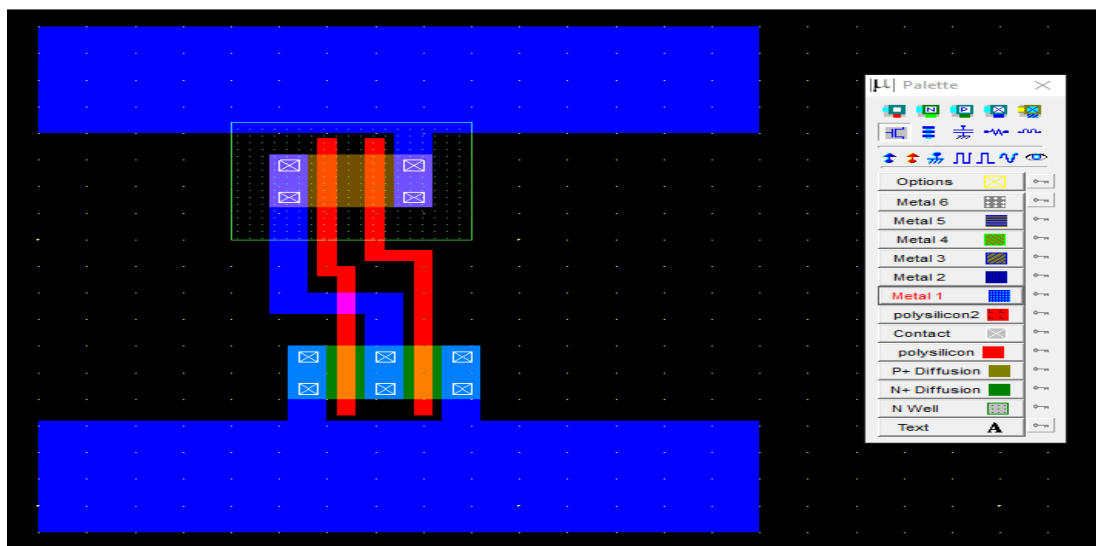

Figure 39: inputs and outputs connection
- The next step is to connect the output Metal1 to Metal2. Once again use the 4th contact in the first row. See the figure39 below: